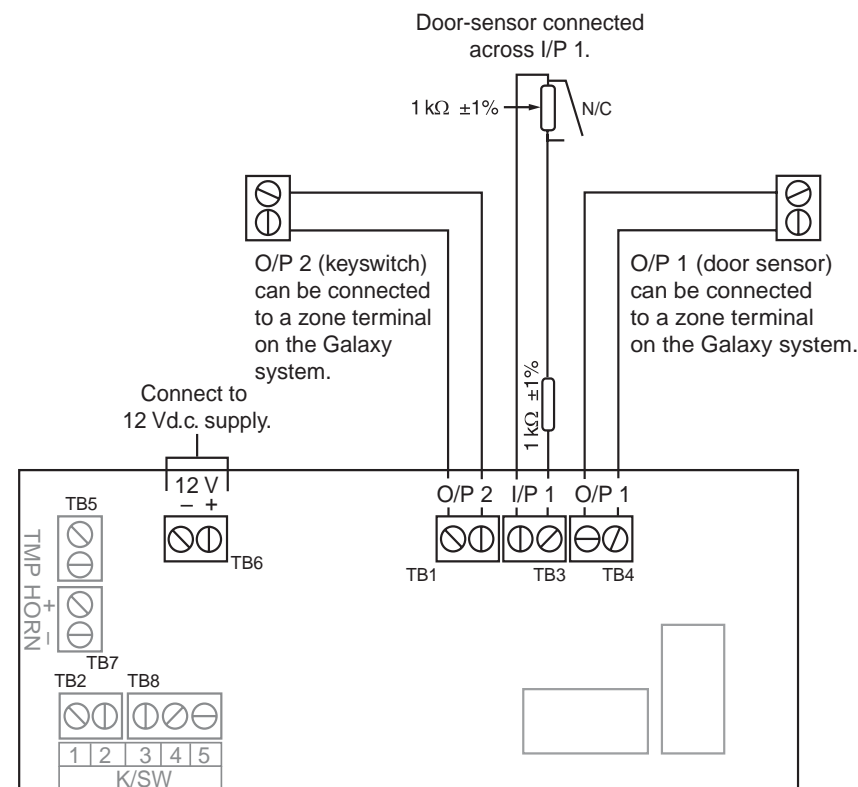

Figure 1: DGI PCB Layout.
1. Connect the door-sensor across I/P 1 (terminal block 3 (TB 3)). The sensor must be wired to the terminals in a double-balanced, end-of-line configuration using two 1 k Ω ($\pm 1\%$) resistors, see *Figure 1*.